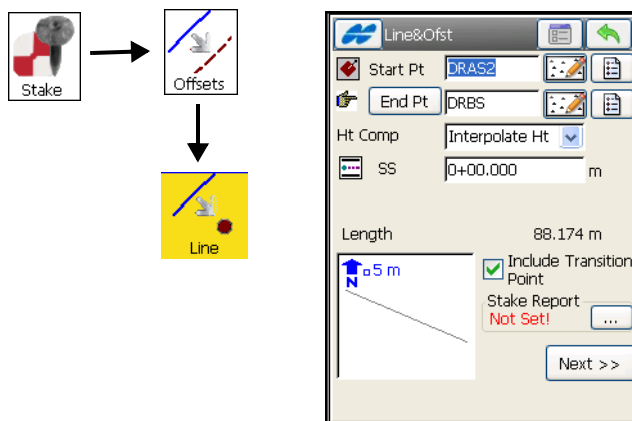

Figure 9-26. Stakeout Line & Offset Parameters
1. Tap **Stake ▶ Offsets ▶ Line** (Figure 9-26 on page 9-20).
2. In the **Line&Ofst** (Stakeout Line & Offset) screen, set the direction of the line, the type of height computations for the stakeout point (currently the stakeout point will have the same height as the starting point of the line), the number of subdivisions of the line (if an end point is specified) and the starting station (chainage) of the line. Tap **Next** (Figure 9-26 on page 9-20).